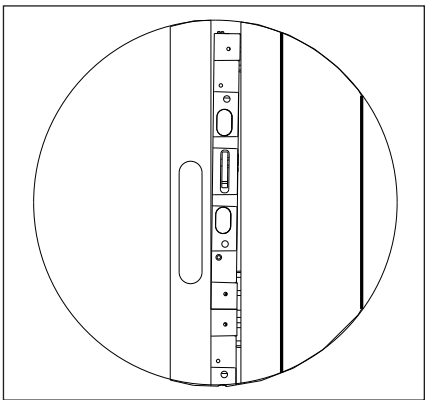

Figure 13: Verify Flatness
- b. Verify flatness by laying a 4' level across the face to ensure the combined face of both panels is straight and flat. Check both ends of the panel. Refer to **Figure 13**.